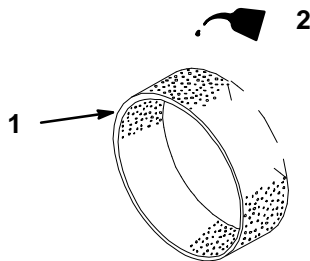

Figure 8
- C. Put one or two ounces of oil on the element (Fig. 8). Squeeze the element to distribute the oil.